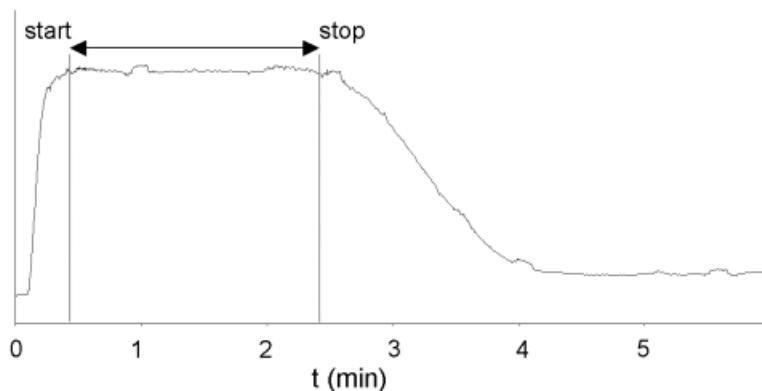

Figure 3-71 Chromatogram of a Sample in DC Mode
3. Start an initial run in DC mode at a high potential to estimate the required start and stop time of the scan after sample injection (Figure 3-71).